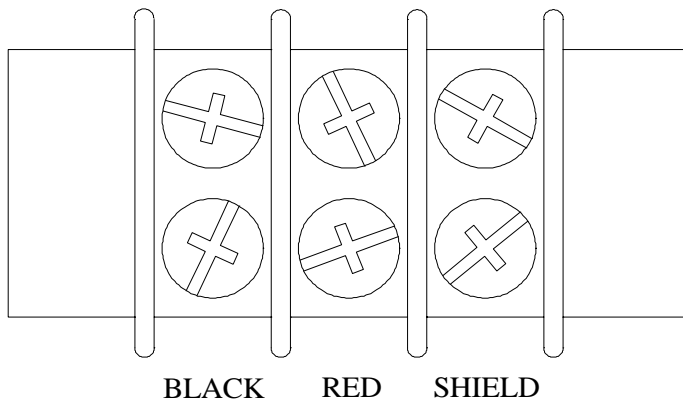

Figure 9 T1 WIRING DIAGRAM
3. Connect the control cable to terminal strip T1 (located to the left of the test jack S3) according to the diagram in figure 9.